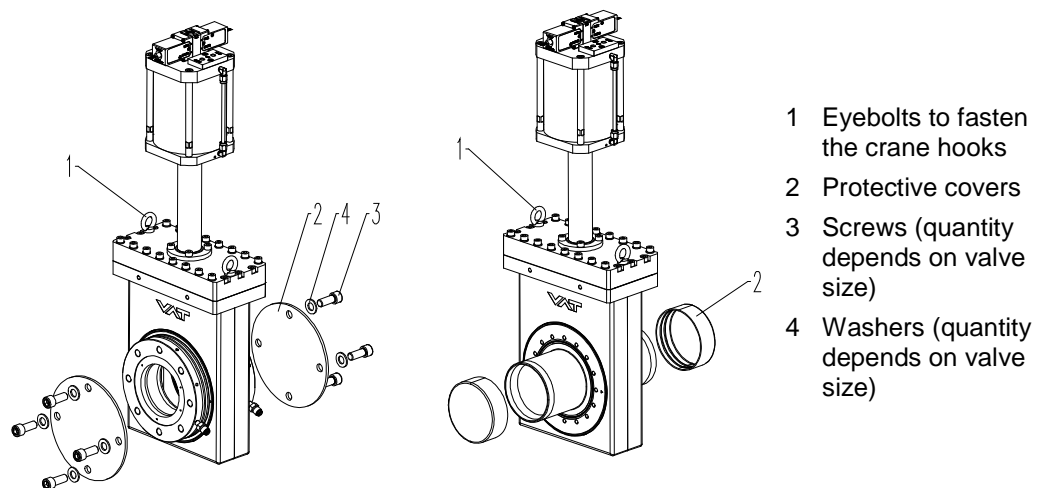

Figure 4-2
2. Remove screws (2) and protective covers (3); see «Figure 4-2».